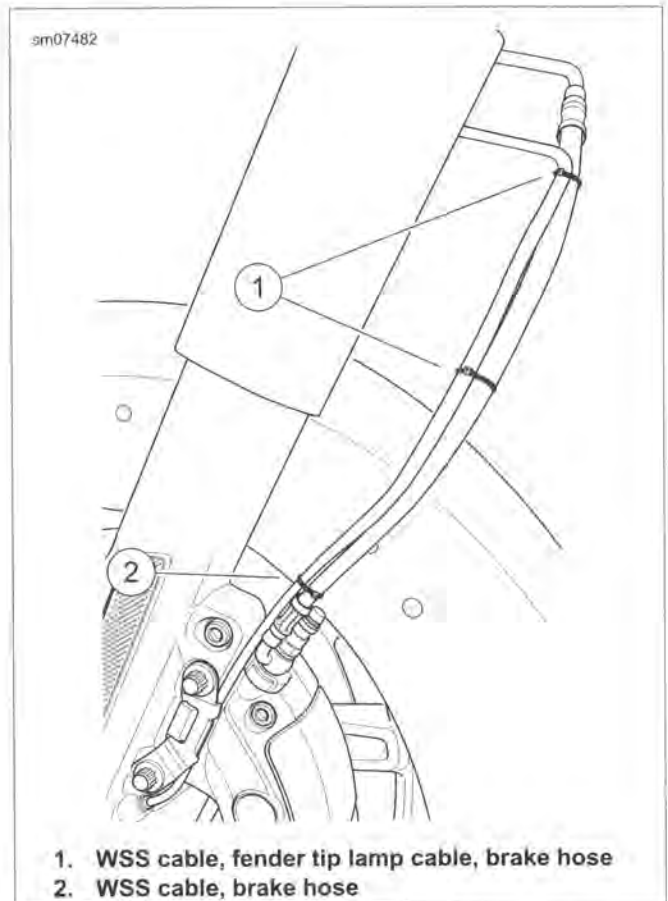

Figure 2-160. Secure Cables and Brake Hose
2. See Figure 2-160. If equipped, connect fender tip lamp connector. Secure harness with two **new** cable straps (1). See 7.12 FENDER TIP LAMPS.